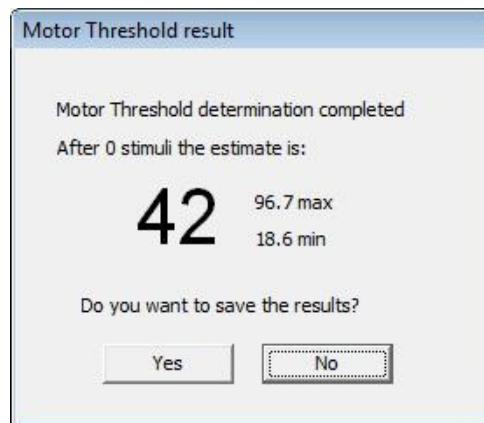

Fig. 101. MT determination stopped by the user
- a) If you click **Stop** to stop the MT determination process, the following dialog is displayed (Figure 101). Clicking **No** removes all information of the current MT process.